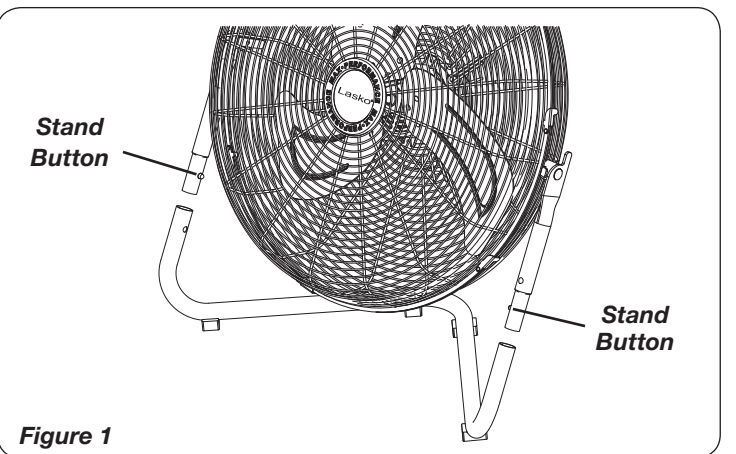

Figure 1
(Figures 1 and 2)
2. Align the two sides of the Fan to the stand (Figure 1). By pressing in the **Stand Buttons** - push down until they lock in place.